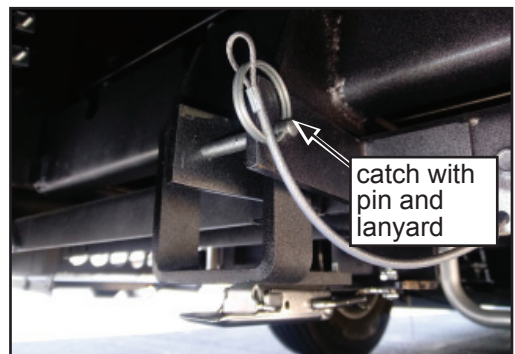

Figure 19
21. Close the generator slide-out tray and engage the primary generator latch. Insert the pin into the newly installed brackets. See Figure 19.